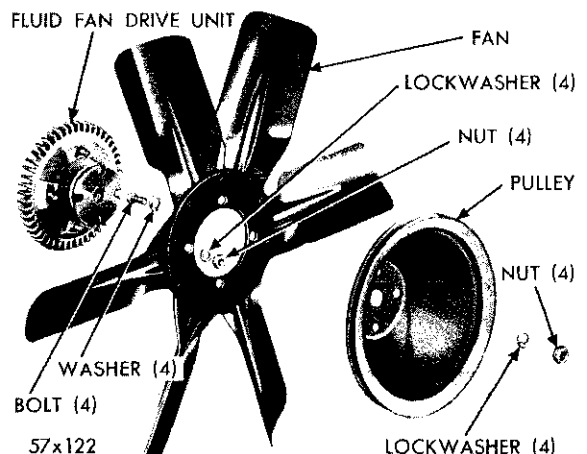

Fig. 1—Fluid Fan Drive (Exploded View)
1. FLUID FAN DRIVE (FIG. 1.)
Drain cooling system and remove upper half of fan shroud (Air Conditioning Models only). Loosen the power steering pump or idler pulley, generator, and remove all belts. Remove fan, spacer and pulley. On Air Conditioning Models, remove the pulley from water pump fan hub, loosen all nuts from fan to remove the fluid fan drive, as shown in Figure 1. Remove bolts holding water pump body to housing and remove water pump.
c. Assembly (Fig. 1)